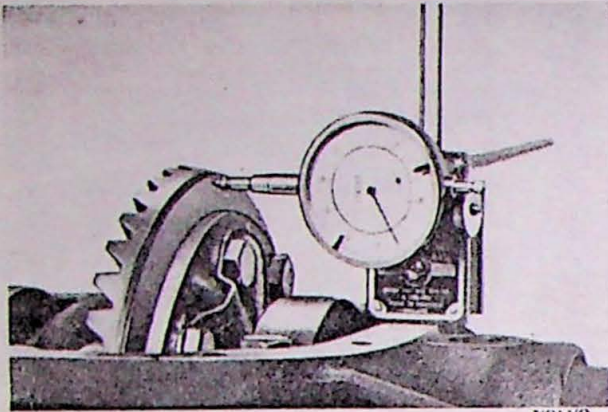

Fig. 5-27. Measuring the ring gear runout
12. Fit the caps (2) with bolts and tighten the bolts to a torque of 5.5—7 kgm (40—50 lb.ft.). Fit an indicator against the reverse side of the ring gear, Fig. 5-27. Rotate the ring gear and measure its runout. This should not exceed 0.08 mm (0.003").